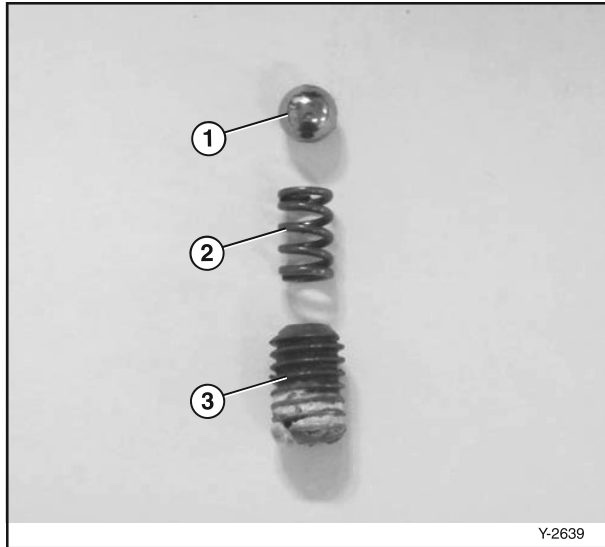

Figure 6-75
9. Remove the set screw (Figure 6-75, (3)), the spring (Figure 6-75, (2)) and the detent ball (Figure 6-75, (1)).